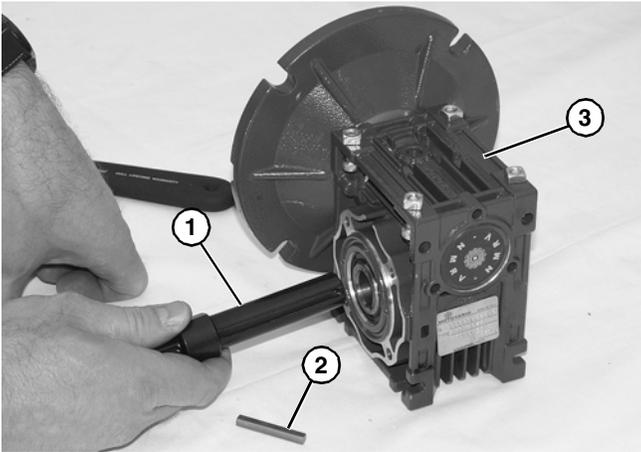

**Figure 22**
2. Loosen driveshaft bolt (**Figure 22, item 1**).
3. Hold the driveshaft with a wrench (**Figure 22, item 2**) as shown to keep shaft from turning, while removing screw with hex wrench (**Figure 22, item 3**).
- Hold the driveshaft with a wrench (**Figure 22, item 2**) as shown to keep shaft from turning, while installing screw with hex wrench (**Figure 22, item 3**). Tighten screw to 100 in-lb (11.5 Nm) for 42CZ or 350 in-lb (39.5 Nm) for 52C, 63B5 and 71B5.